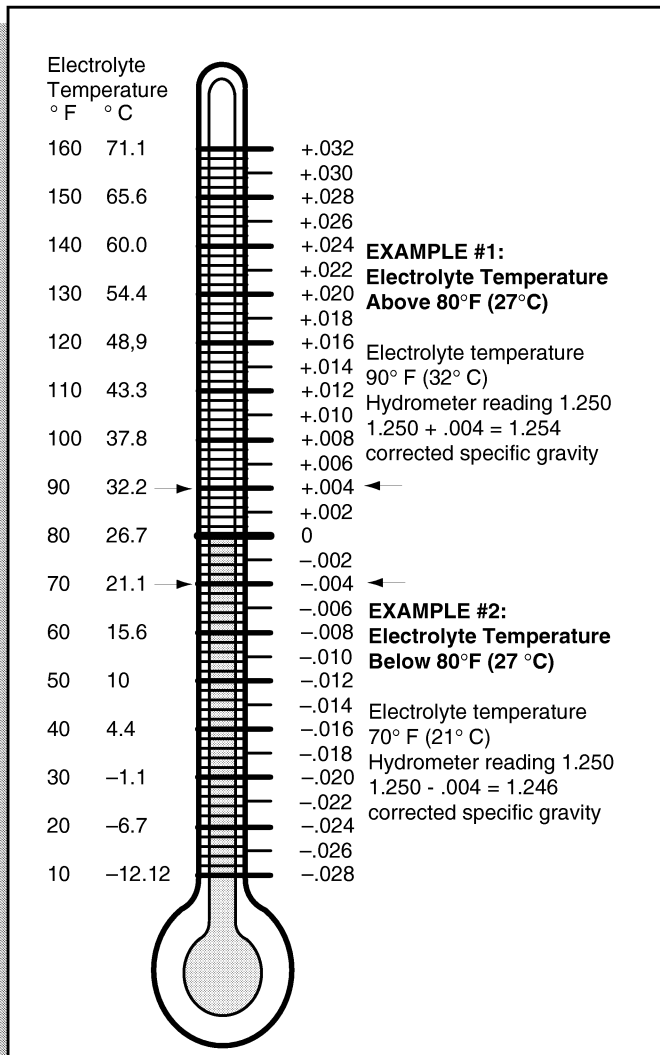

Fig. 8 Hydrometer Temperature Correction
4. Add or subtract four points (.004) to the reading for every 10°F (6°C) the electrolyte temperature is above or below 80° F (27° C). Adjust the reading to conform with the electrolyte temperature, e.g., if the reading indicates a specific gravity of 1.250 and the electrolyte temperature is 90° F (32° C), **add** four points (.004) to the 1.250 which gives a corrected reading of 1.254. Similarly if the temperature was 70° F (21°C), **subtract** four points (.004) from the 1.250 to give a corrected reading of 1.246 (Ref Fig. 8 on page J-7).